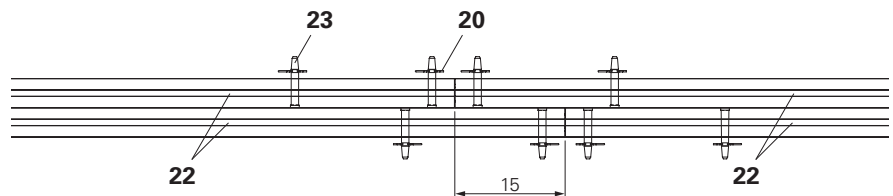
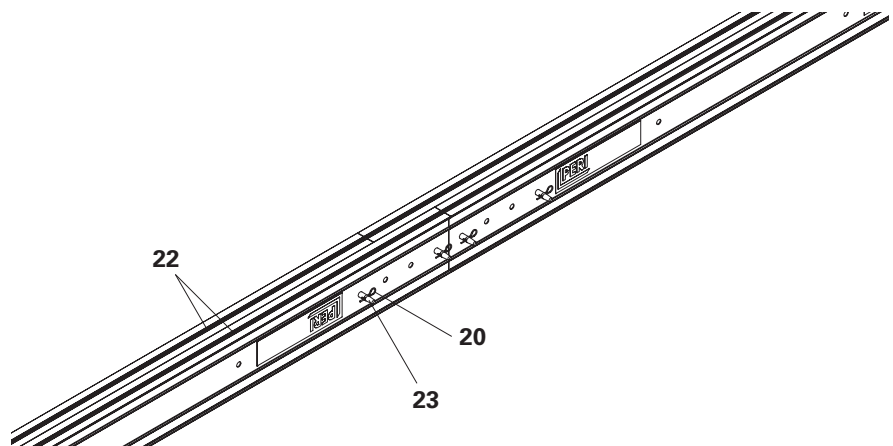

Fig. A6.05a
Fig. A6.05
- If extended units are used as twin main beams, the Pins $\text{Ø}20 \times 140 \text{ mm}$ ga (**23**) must point outwards. (Fig. A6.05 + Fig. A6.05a)
- The joints must be arranged at least 15 cm offset from one another. (Fig. A6.05a)